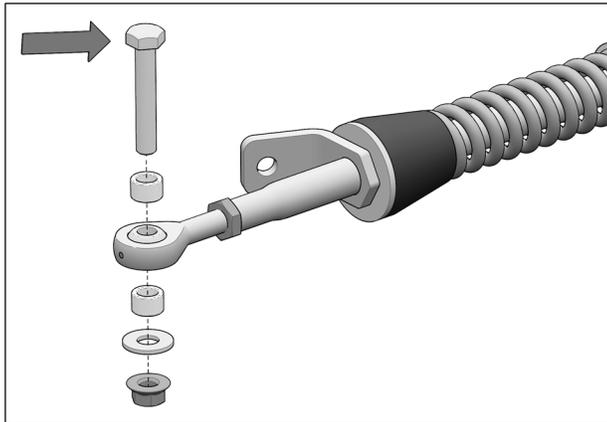

Fig. 12
3. Remove bolts, nuts, washers and bushings from front stabilizing rod ends as shown in Fig. 12